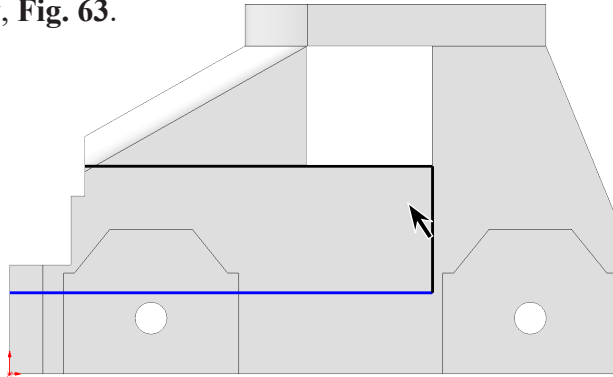

**Fig. 62**
Step 1. Click **Right Plane**  in the Feature Manager and click **Sketch**  on the context toolbar, **Fig. 62**.